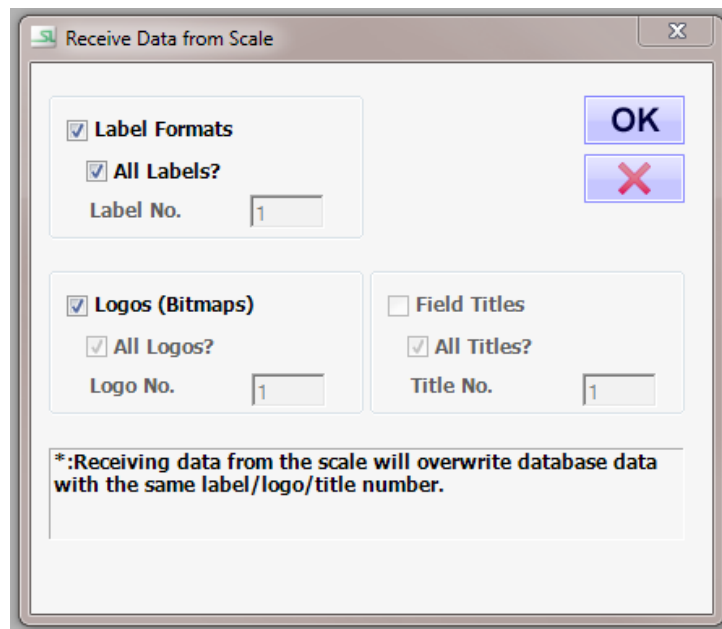

Figure 53-2
2. Select the Select button to receive label formats and associated scale data from the scale. The Receive Data from Scale dialog box will display. See Figure 53-2.